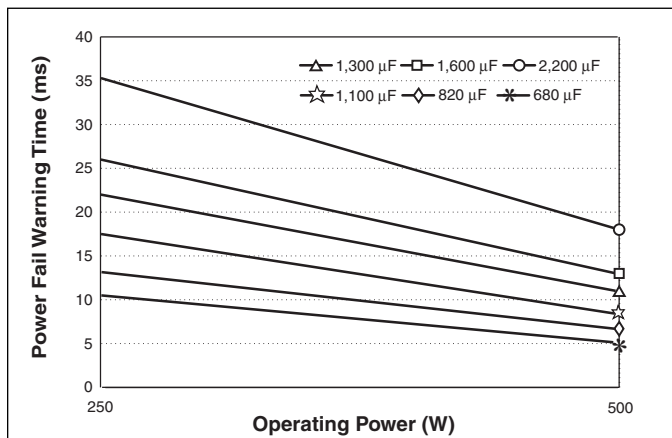

Figure 9-14 — Power fail warning time vs. operating power and total bus capacitance, series combination of C1, C1 (Figure 9-1a)
Calculated values of bus capacitance for various hold-up time, ride-through time, and ripple voltage requirements are given as a function of operating power level in Figures 9-14, 9-15, and 9-16, respectively.
**Determining Required Capacitance for Power Fail Warning.** Figure 9-14 is used to determine capacitance for a given power fail warning time and power level, and shows that the total bus capacitance should be at least 820 μF. Since two capacitors are configured in series, each capacitor should be at least 1,640 μF. Note that warning time is not dependent on line voltage. A hold-up capacitor calculator is available on the Vicor website, at [vicorpower.com/hubcalc](http://vicorpower.com/hubcalc).